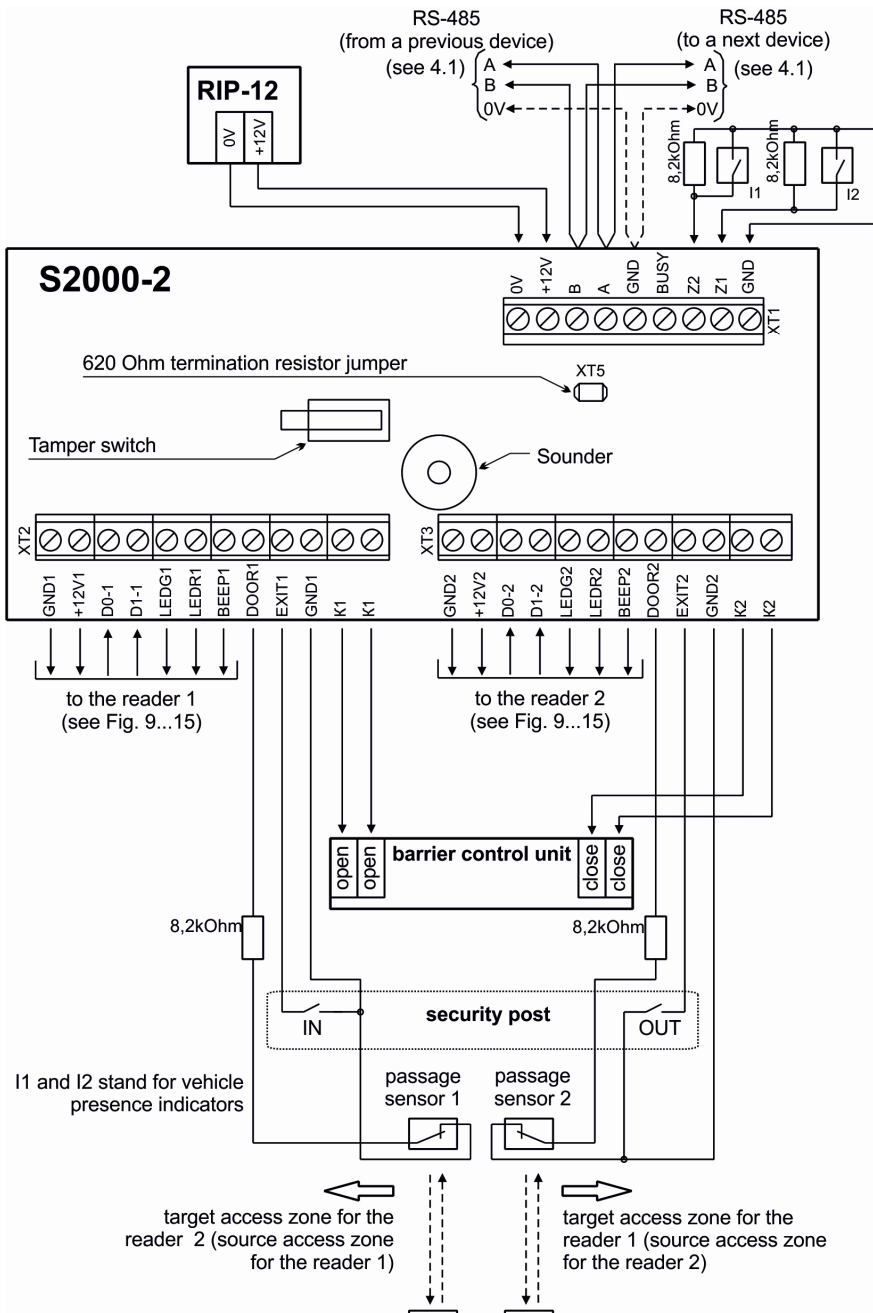

Figure 20. Wiring the S2000-2 for the Boom Barrier Operation Mode
4.10.1 Connect the control circuits of the boom barrier, the passage sensors, and the vehicle presence sensors as shown in Figure 20.